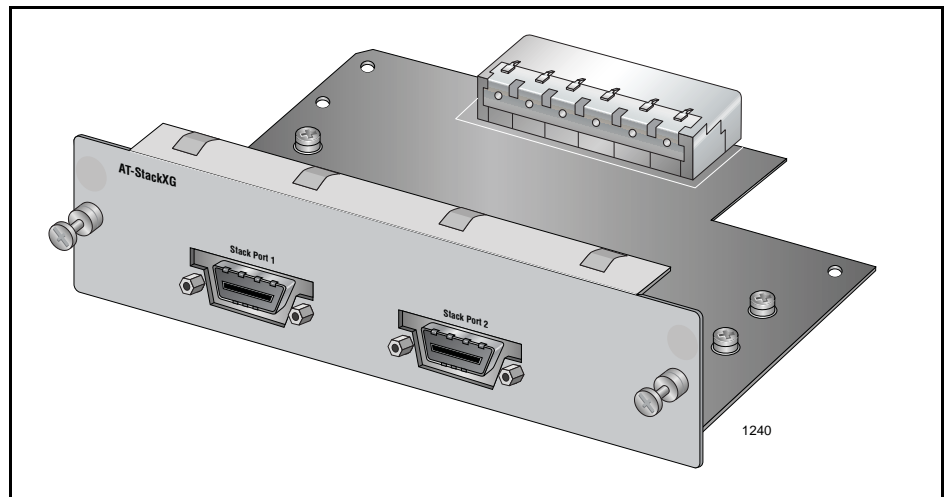

Figure 39. AT-StackXG Stacking Module
- ❑ The AT-StackXG, shown in Figure 39, has two full-duplex, 12 Gbps stacking ports.